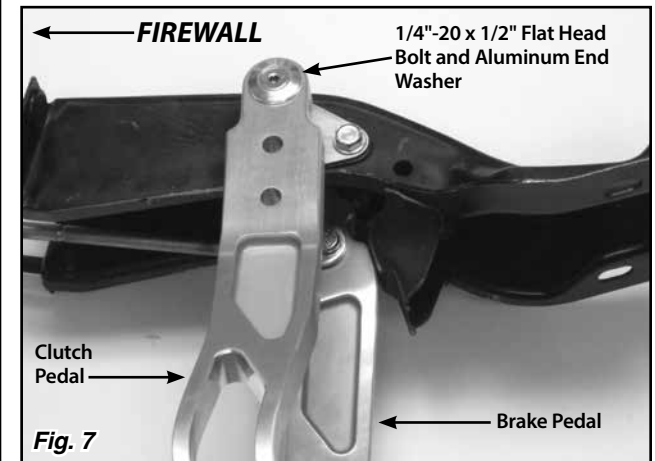

Fig. 7
Step 4: Install the clutch pedal onto the left hand end of the splined shaft. Install the 1/4"-20 x 1/2" flat head bolt and the aluminum end washer onto the left hand end of the splined shaft. Fig. 7